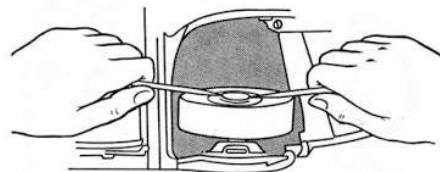

FIG. 125—Removing hub cap from wheel shaft
- c. On Model 26—Pry hub caps (using two screw drivers) and the split lock rings off front wheel shafts. Figure 125. (It is necessary to remove cleaning tool connector housing to give clearance for removal of right wheel).